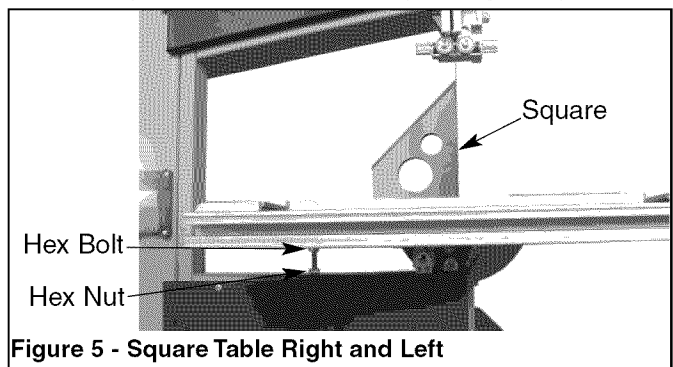

Figure 5 - Square Table Right and Left
- Using a wrench, release the hex nut on the frame (see Figure 5).
- Place the wrench on the hex bolt and adjust until the table square to the saw blade (see Figure 5).